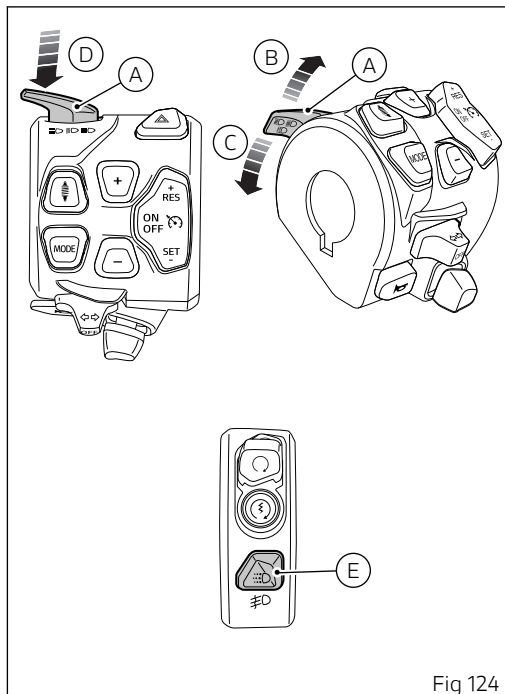

Fig 124
When the DRL is set to "Auto" mode, the corresponding warning light will turn on. If the DRL was set to "Auto" mode, press button (E, Fig 124) to disable that mode and set manual light management. Press again button (E, Fig 124) to re-enable DRL but with control strategy set to "Manual".
If the DRL lights are in this mode, as set through the "DRL" function within the "Setting menu" (page 287) DRL lights will not change their status upon key-on. To switch on or off the DRL lights, it is necessary to press button (E, Fig 124).
- if DRL lights are present, press and hold button (E, Fig 124) for a long time;
- if DRL lights are not present, press button (E, Fig 124).